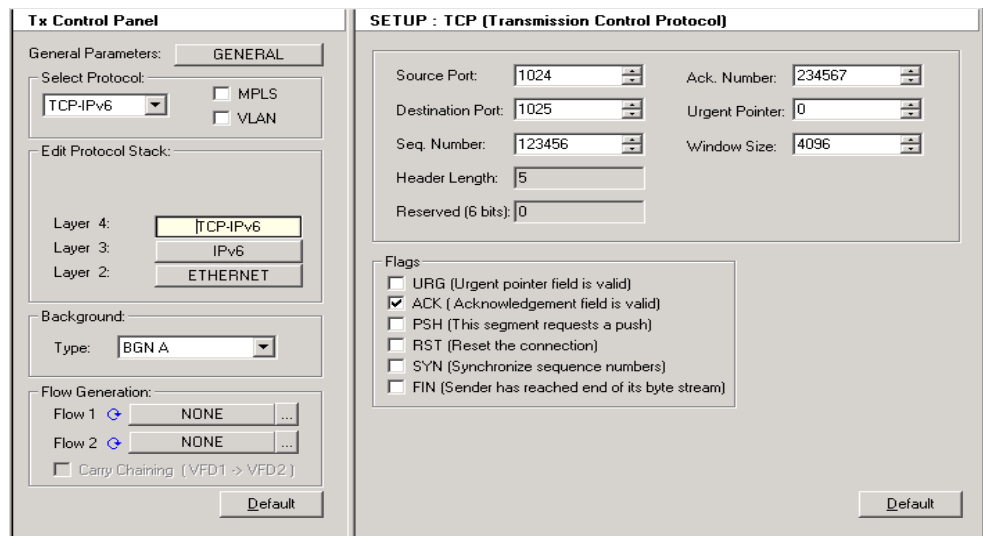

Figure 7-19. IPv6/TCP SETUP
- 3 Press the **TCP/IPv6 Layer 4** button. Now configure this protocol using the templates in *SETUP*. (See Figure 7-19.)